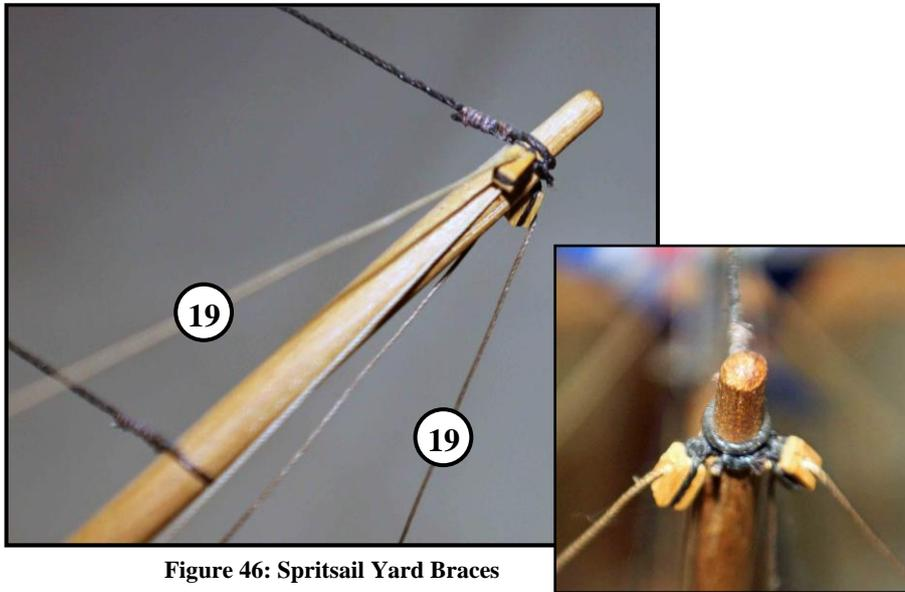

Figure 46: Spritsail Yard Braces
- Fig. 46 shows block 11 seized around the knee/topmast in the drawing but the use of an eye-bolt in the photo. The latter is possibly the easier approach ? Builder's choice.